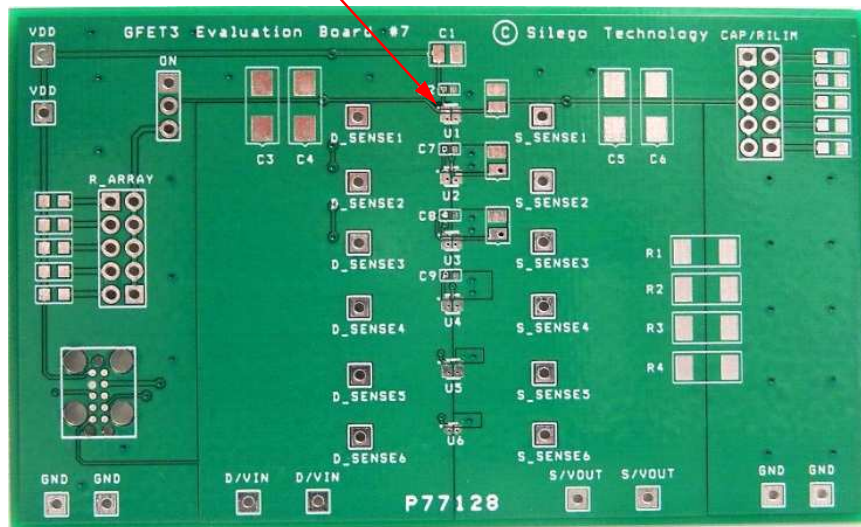

Figure 1. SLG59M1563V Evaluation Board.
2. Since the D and S pins dissipate most of the heat generated during high-load current operation, it is highly recommended to make power traces as short, direct, and wide as possible. A good practice is to make power traces with absolute minimum widths of 15 mils (0.381 mm) per Ampere. A representative layout, shown in Figure 1, illustrates proper techniques for heat to transfer as efficiently as possible out of the device;
A GreenFET Evaluation Board for SLG59M1563V is designed according to the statements above and is illustrated on Figure 1. Please note that evaluation board has D\_Sense and S\_Sense pads. They cannot carry high currents and dedicated only for RDSON evaluation.